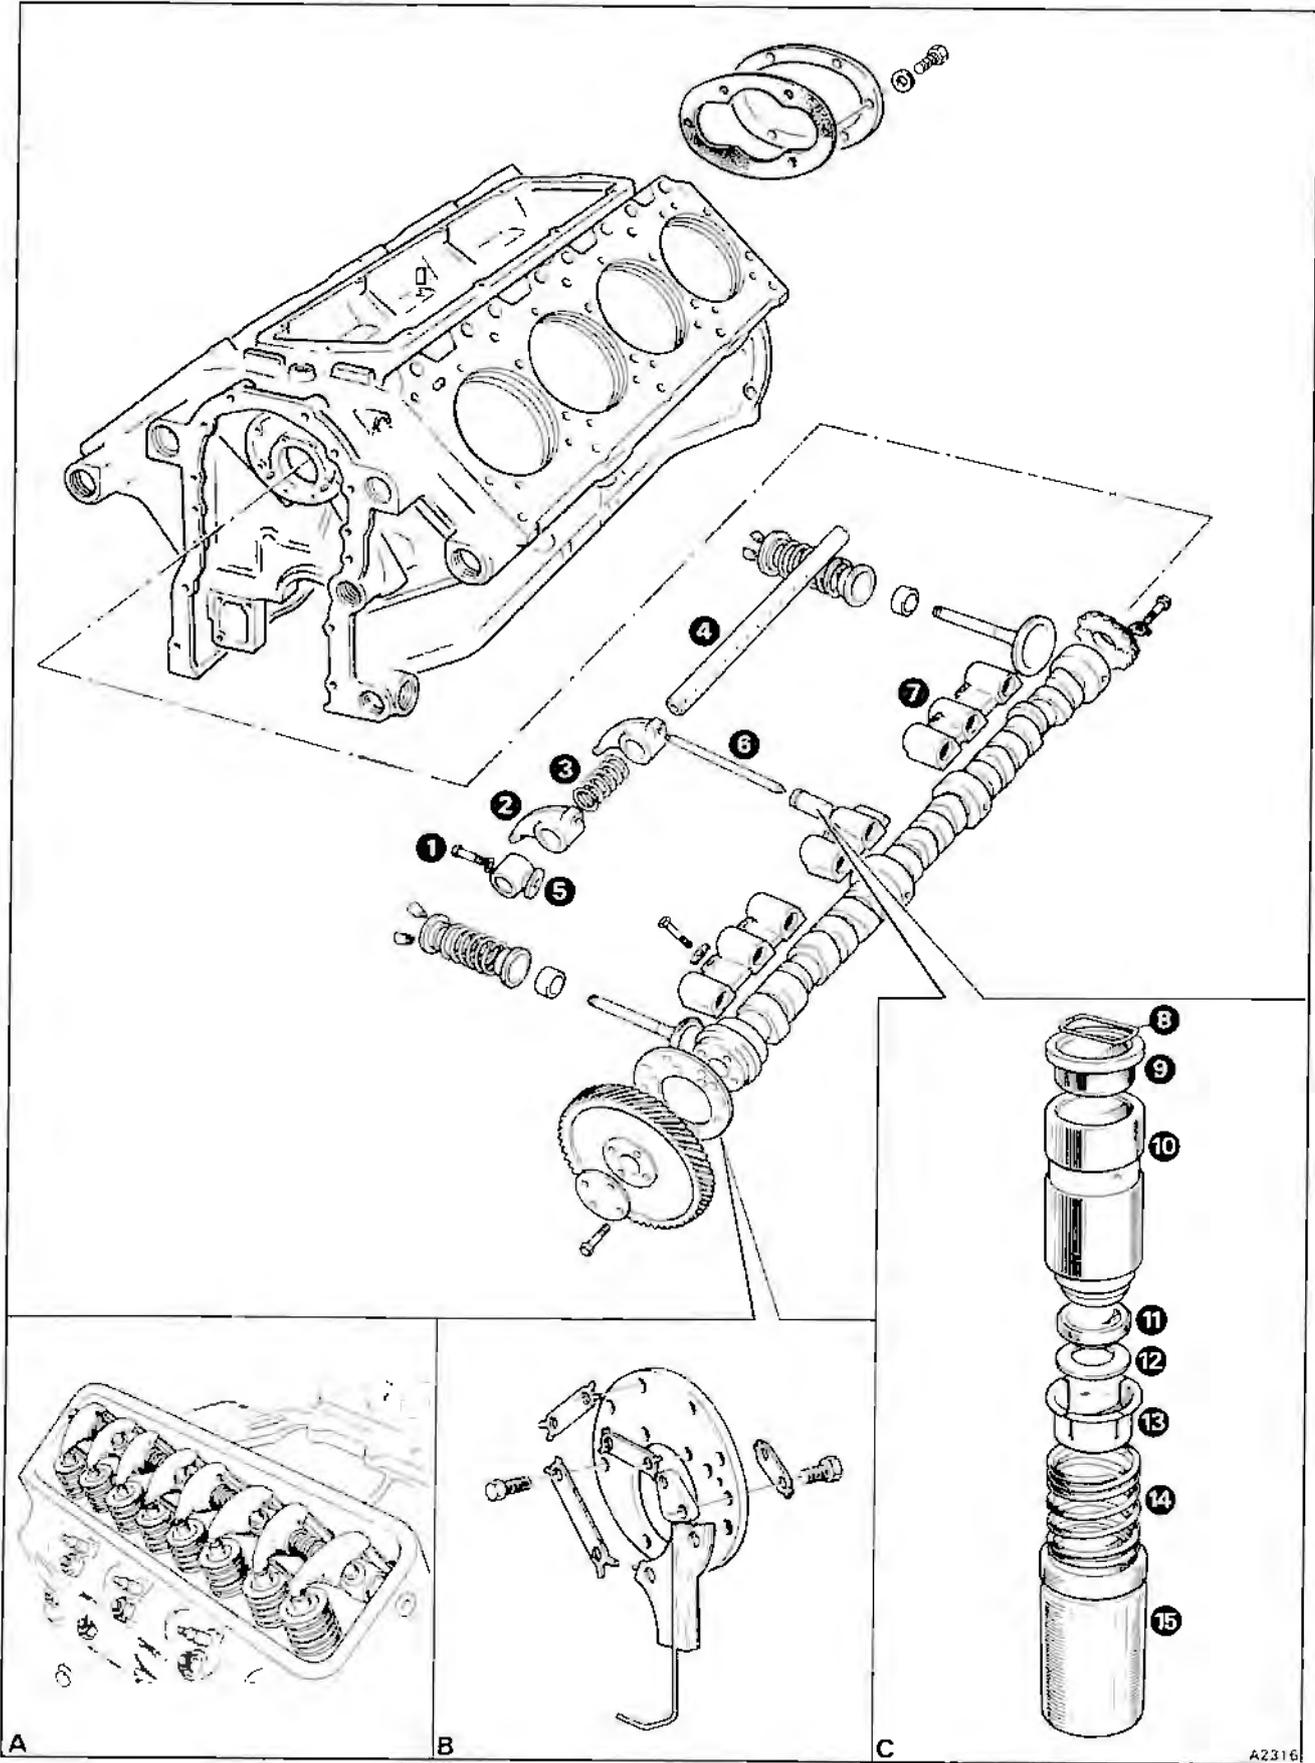

Fig. E7-1 Camshaft and valve mechanism
Rocker shaft assembly – To remove and dismantle (see fig. E7-1)
Rocker shaft assembly – To inspect (see fig. E7-1)
Rocker shaft assembly – To assemble and fit (see fig. E7-1)
Push rods – To remove, inspect, and fit (see fig. E7-1)
Hydraulic tappets (see fig. E7-1, inset C)
Hydraulic tappets – To remove (see fig. E7-1)
Hydraulic tappets – To dismantle (see fig. E7-1)
Hydraulic tappets – To assemble and prime (see fig. E7-1)
Hydraulic tappets – To fit (see fig. E7-1)
10. Remove the camshaft thrust plate together with the timing gear lubricating oil pipe assembly (see fig. E7-1, inset B). Withdraw the camshaft through the front end of the crankcase. Take care that the bearing bores are not damaged by the cam lobes.
Camshaft – To fit (see fig. E7-1)